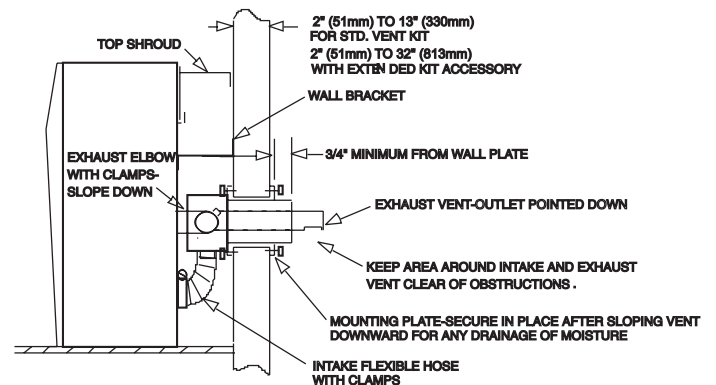

Figure 4
To complete inside installation, secure furnace to the wall bracket by attaching the two wall mounting brackets to the wall bracket by using (2) 10 x 1/2" (13mm) hex-head screws provided. **See Figures 4 and 6.** To attach the right shroud and left shroud to the casing back, the 3/4" wide flange on the shroud must be positioned toward the casing side. When positioned correctly, the (6) louvers on the shroud will be facing up and the knock-out on the shroud will be facing down. Attach the right shroud and left shroud to the casing back with (3) 10x1/2" hex-head screws supplied in hardware package, for each shroud. Attach top shroud to right shroud and left shroud with (4) Phillips-head screws, supplied in hardware package. Insert air filter into top shroud.